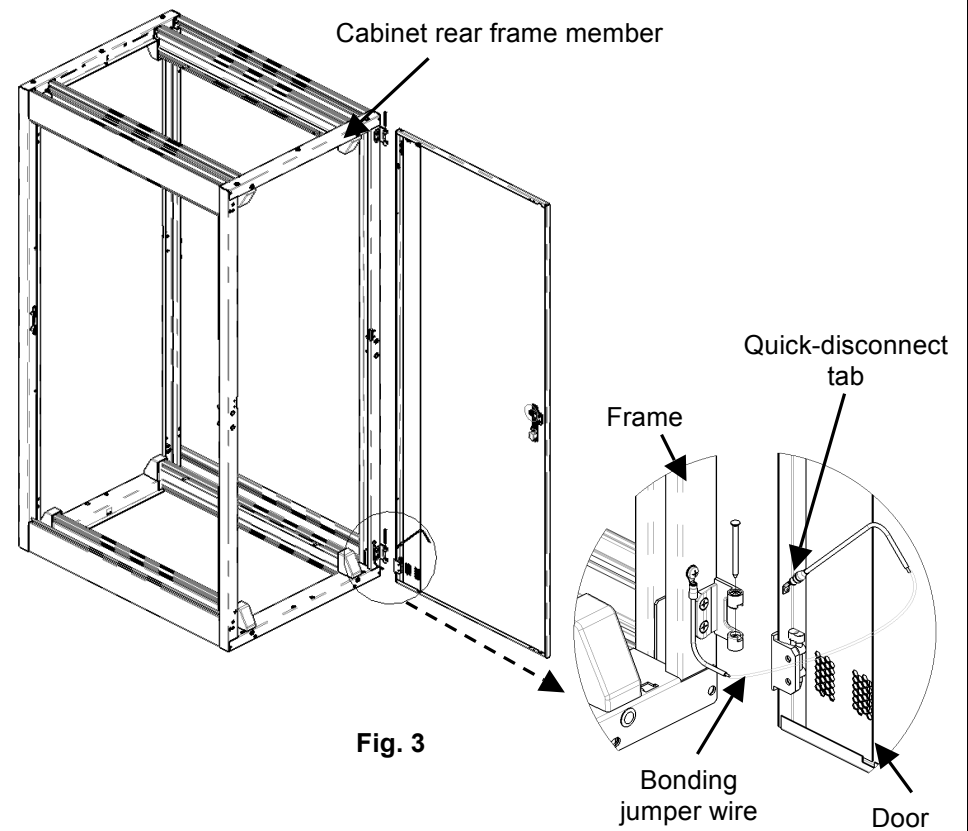

Fig. 3
6. Electrically bond the door to the cabinet frame by plugging the quick-connect end of the bonding jumper wire onto the quick-connect tab nearest the bottom door hinge (Fig. 3).
7. To remove the door, unplug the quick-connect end of the bonding jumper wire from the door. With the door closed, remove the hinge pins by pushing the pins up from the bottom with a tool such as a small screwdriver. Hold the door firmly with a hand on each side. Open the door until it is perpendicular to the cabinet and slide the door out of the hinges (Fig. 3).